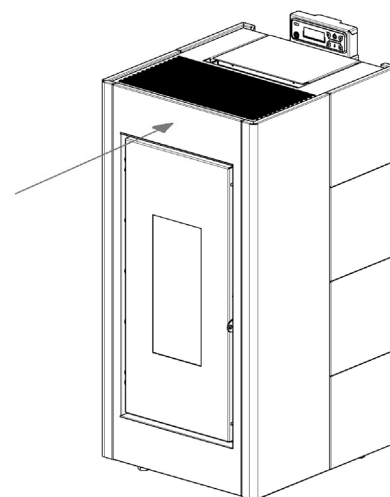

Fig. 39 - Position the front panel
- Position the front panel (see **Fig. 39**).